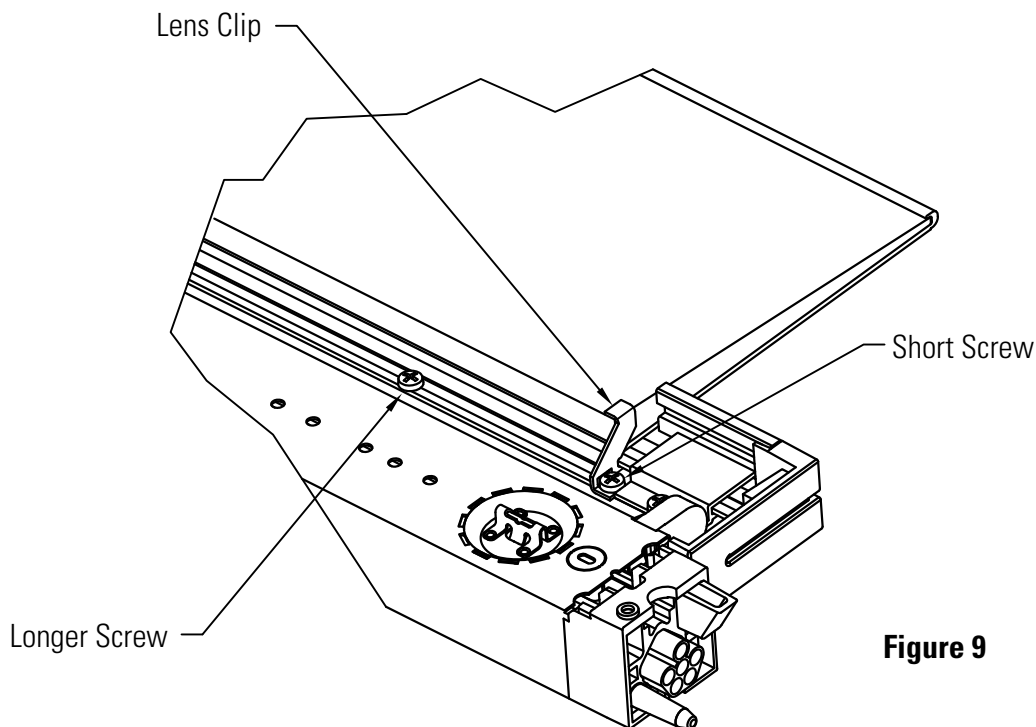

Figure 9
Step 2. Install 2 lens clips per lens. 1 right hand and 1 left hand utilizing the short screws provided. (Fig. 9)
Step 3. Install 2 longer screws per lens along the housing screw groove approximate 6" from end of lens. (Fig. 9)